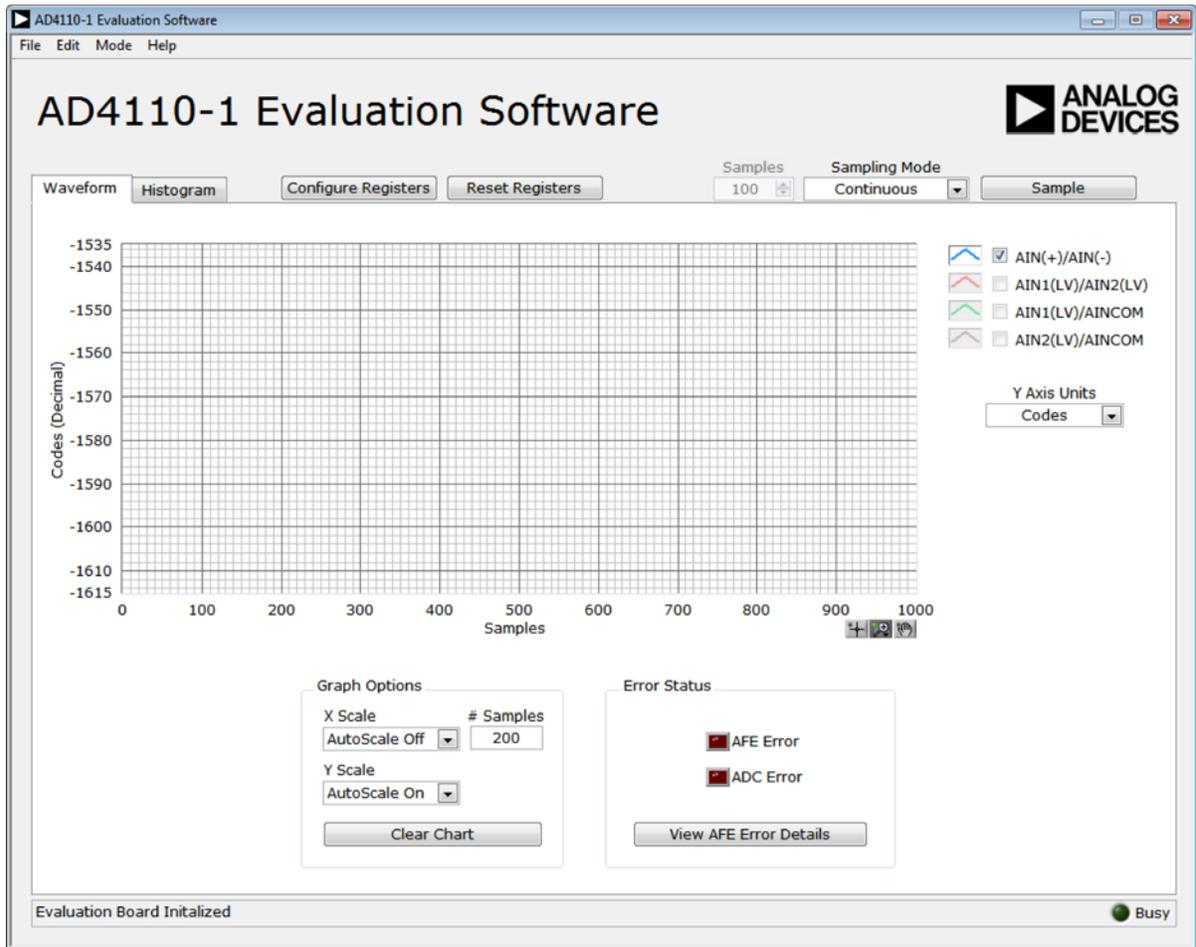

Figure 17. AD4110-1 Evaluation Software Main Window
1. Click **Start, All Programs, Analog Devices, AD4110-1_ SDZ**, then **AD4110-1**. The main window of the software displays (see Figure 17).
The main window (Figure 17) shows the significant control buttons and indicators of the AD4110-1 evaluation board software. Using the demonstration modes automatically configures the AD4110-1 device for connection to one of the sensors. The main window functionality adapts to the chosen demonstration mode.